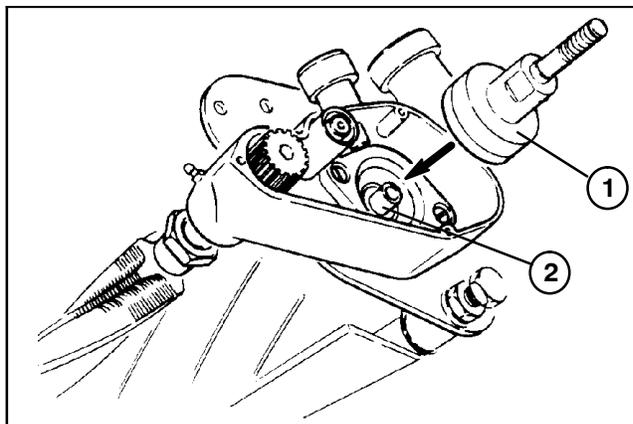

Figure 15
6. Remove clutch adapter from the reel shaft if necessary as follows (Fig. 15):
2. If removed, install clutch adapter to the reel shaft as follows (Fig. 15):